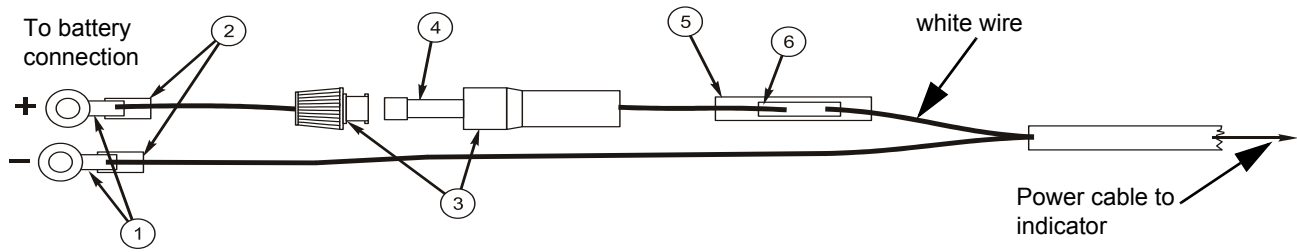

Figure 3.11 Fuse wiring
- 6b. Using the supplied butt splice connector (item 6 in figure 3.11) and heat shrink tubing (item 5 in figure 3.11), connect the wire from the fuse holder to the white wire from the power supply cable. The smaller diameter wire from the power cable should be inserted into the red striped end of the butt splice connector. Insert the wire from the fuse holder into the other end (no stripe) of the butt splice connector. The heat shrink tubing should be placed over the butt splice connector.
- 6c. Cut the heat shrink tubing (item 2 in figure 3.11) in half and place one piece on the black wire from the power supply cable and one piece on the loose wire from the fuse holder.
- 6d. Crimp the ring terminals (item 1) onto the wires as shown in figure 3.11.
Item 4 in Figure 3.11 is the fuse. It is PN AWT25-500337 and is a 3AMP 3AG SLOW-BLOW FUSE.